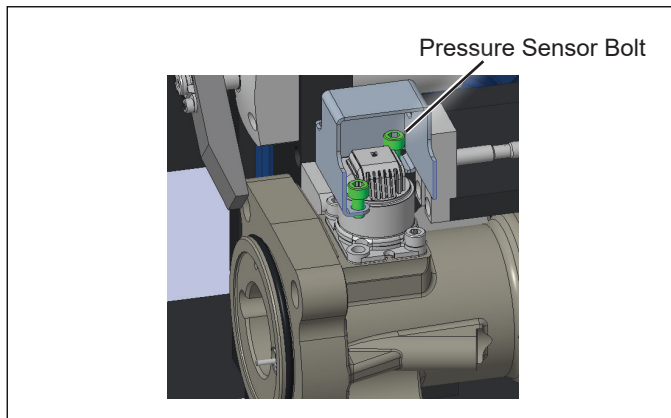

Figure 12 – Bolt Installation
4. Remove the alignment fixture (if used) and install the pressure sensor cover by aligning the bottom tabs with the open bolt holes. See Figure 12.
5. Hand start and torque the front left and back right bolts to 13-16 ft-lb (17.6-21.7 N•m) through the tabs of the pressure sensor cover with the 5-mm hex (Allen) bit. See Figure 12.